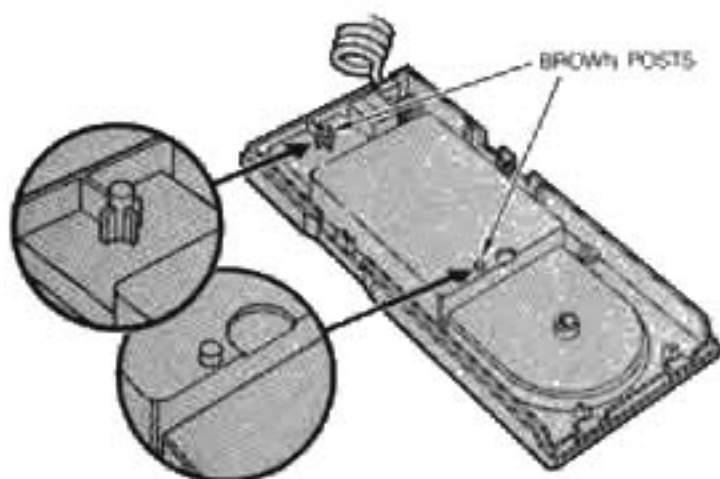

Figure 4-9
8) Before reinstalling the top housing, make sure the circuit matrix and keypad are securely in place so that the top and bottom holes fit over the small brown posts. See Figure 4-9.